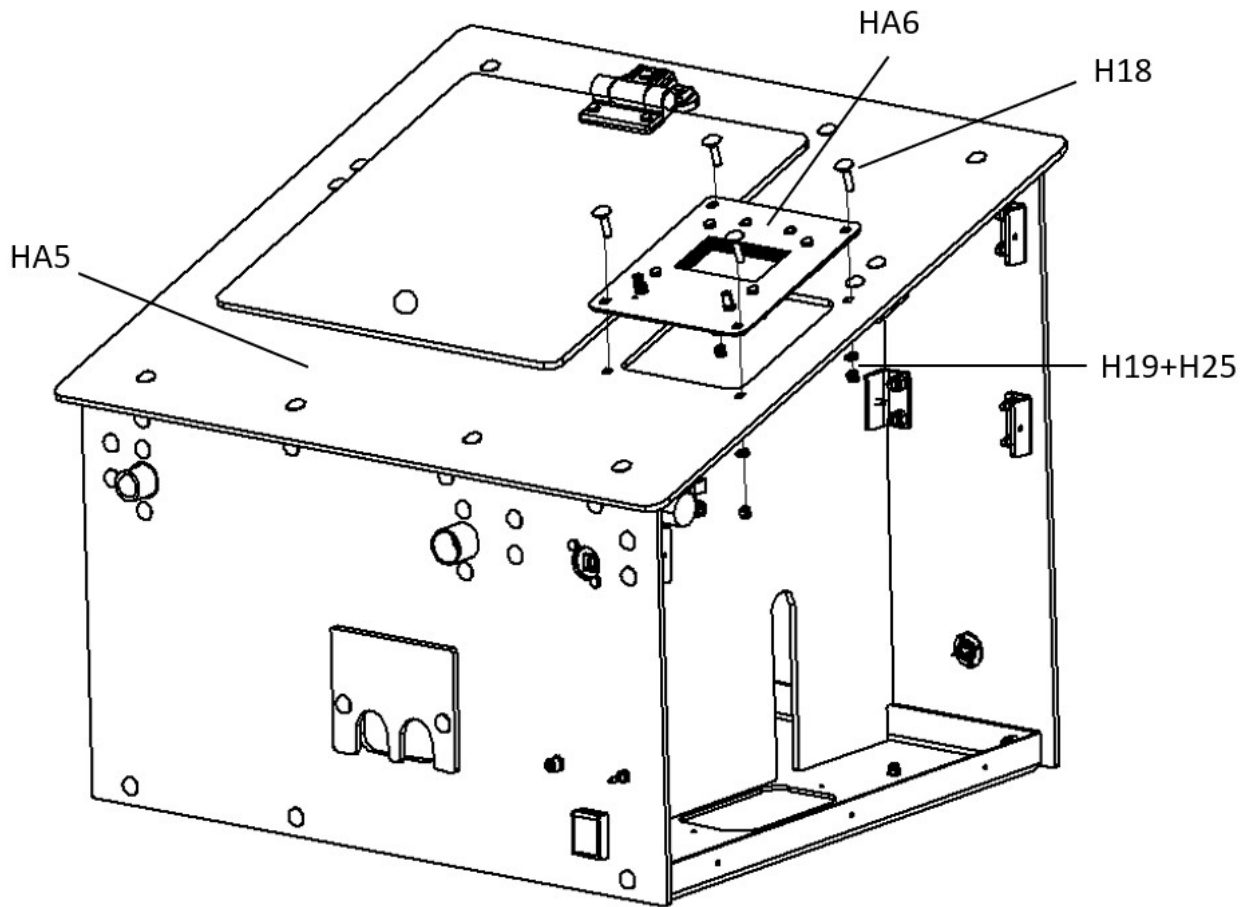

Figure 18: Mount User Interface to Top Plate
1. Place HA1 onto HA4 as illustrated in figure 18 and fasten it with 4x H18 Carriage Bolts and H19 Nuts at the front and 4x H18 Carriage Bolts and H19 Nuts at the back.
1. Position the Monitoring Panel onto the opening in the Top Plate as shown in figure 18.